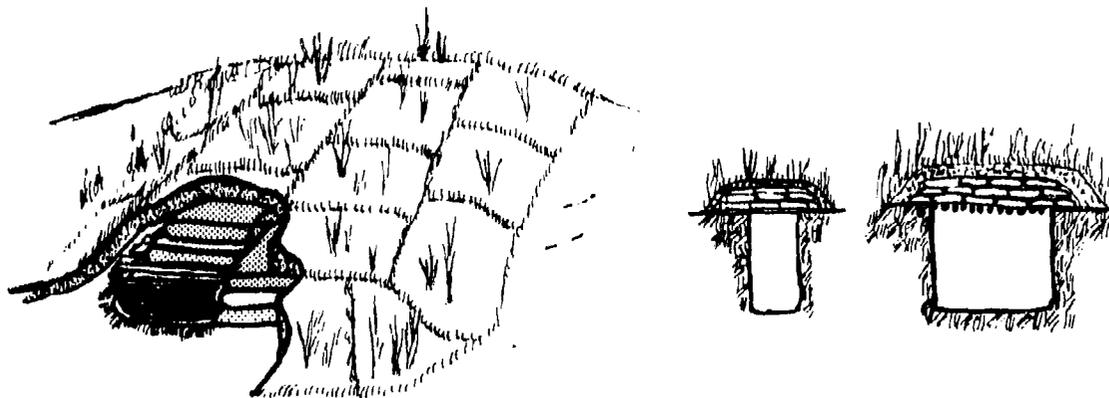

FIGURE 9. PROTECTING SANDBAGS WITH SOD AND EARTH COVER.
--"Protect your sandbags." Sandbags exposed to thermal radiation will burn and spill their contents, which can then be moved more easily by the blast wave. Covering sandbags with a small amount of earth and/or sod will eliminate this problem, enhance your camouflage, and provide valuable additional conventional fragmentation protection (see figure 9).